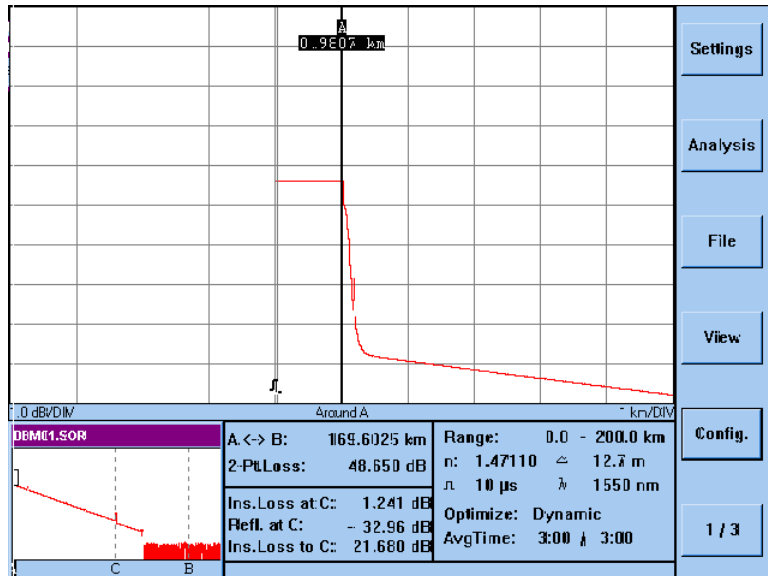

Figure 3-6
- 8 Position Marker A so that it cuts the trace in the same vertical position as the backscatter extrapolated back to 0 m (Figure 3-6). This takes into account the loss in the deadzone.